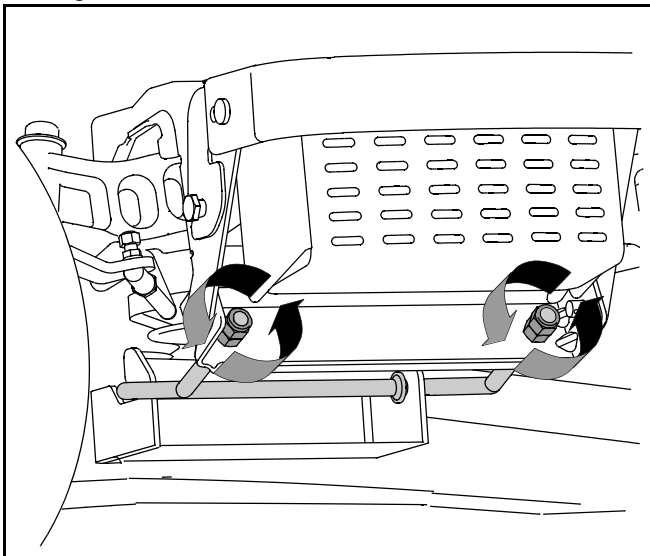

Figure 9
- From the front of the tractor, loosen the outermost hex lock nut on the end of the deck hanger rod. See Figure 9.
- Tighten the inner hex nut front against the front hanger bracket to raise the front of the deck; loosen the hex nut to lower the front of the deck. See Figure 9.